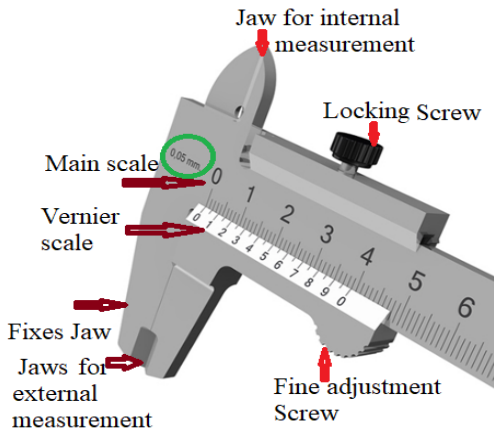

Fig. 1.1. Vernier calipers
Let us consider the **principle of operation of a caliper** and how to use it to determine the size of an object (Fig. 1.1). Vernier calipers are employed to measure the height, diameter and depth of small objects. Their operation is based on the use of two scales and the ‘difference between two scales’ principle, which increases measurement accuracy. The main parts of a vernier caliper are the main scale, vernier scale, measuring jaws, locking screw and depth gauge (Fig. 1.1). The accuracy of a caliper is usually indicated on the scale; in Figure 1.1, the smallest reading is 0.05 mm.
1. Before measuring the dimensions of the parallelepiped with a caliper, ensure that the zero is correctly set (Fig. 1.1).